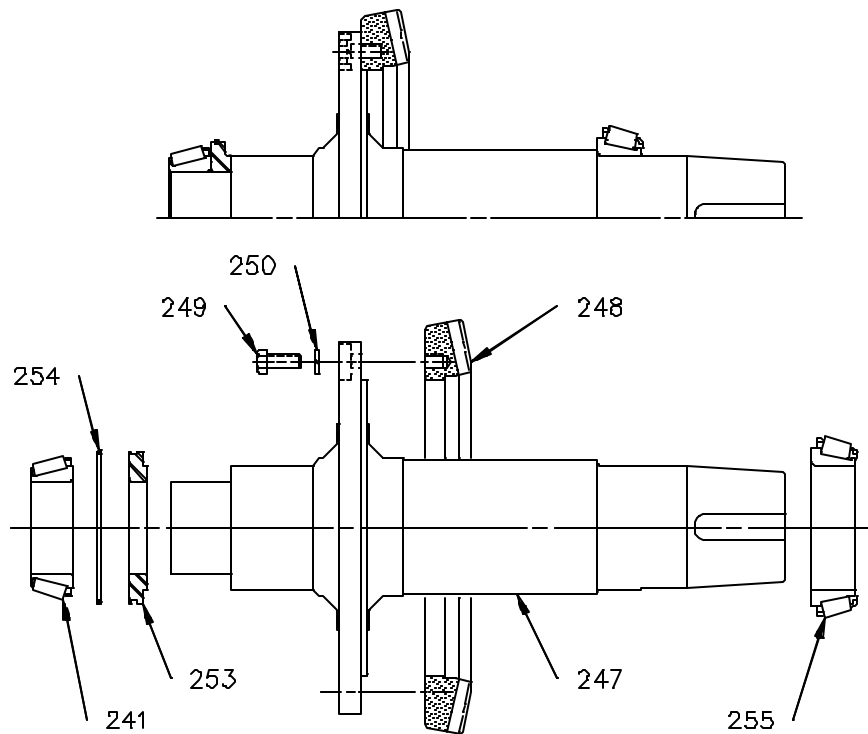

Figure 2: Output Shaft Assembly [246]
16. Install a 1/2-13 eyebolt in the end of output shaft **[247]**. Lift the output shaft assembly (*Figure 2, page 5*) out of the housing.